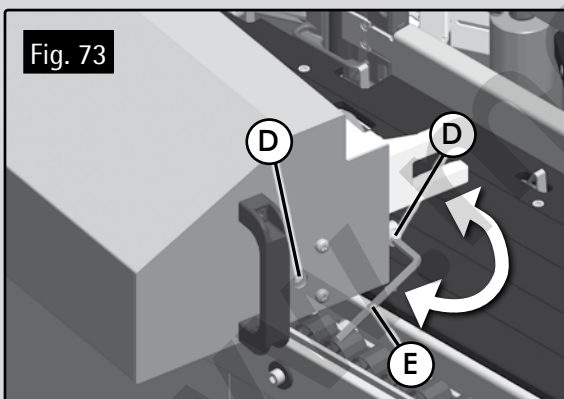

Fig. 73
- To tighten the belt, turn screws D (Figs. 73 and 74) clockwise, using key E. Both screws D must be adjusted in the same manner, turning them the same number of times in order to maintain the roller alignment. Belt A (Fig. 72) will be tightened once it is perfectly flat. Overtightening the belt may cause it to deteriorate prematurely.